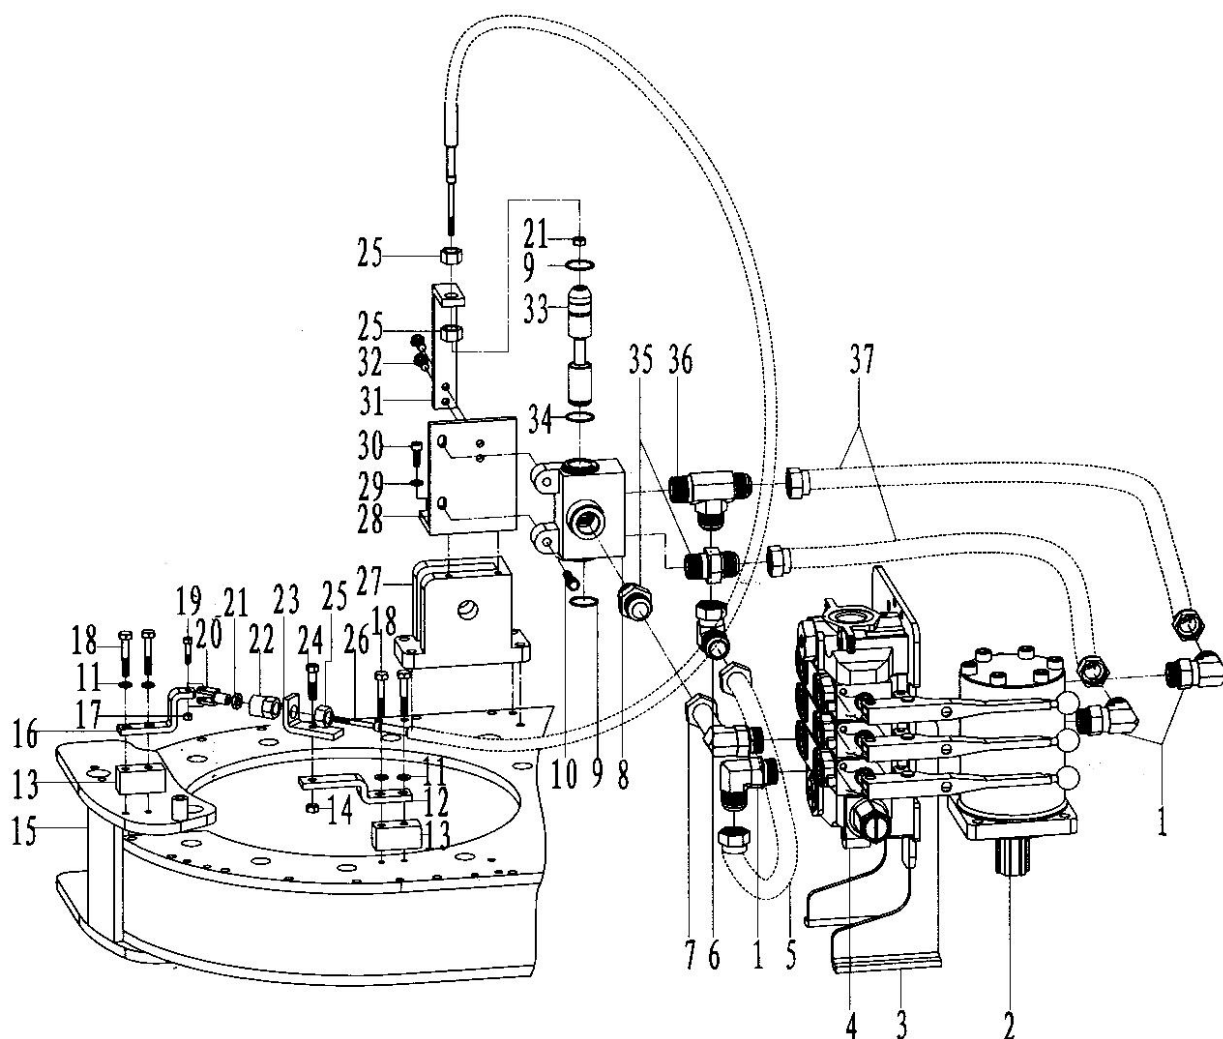

Fig. 25
7.1.18 Safety protection device (Fig.25, Table.20)